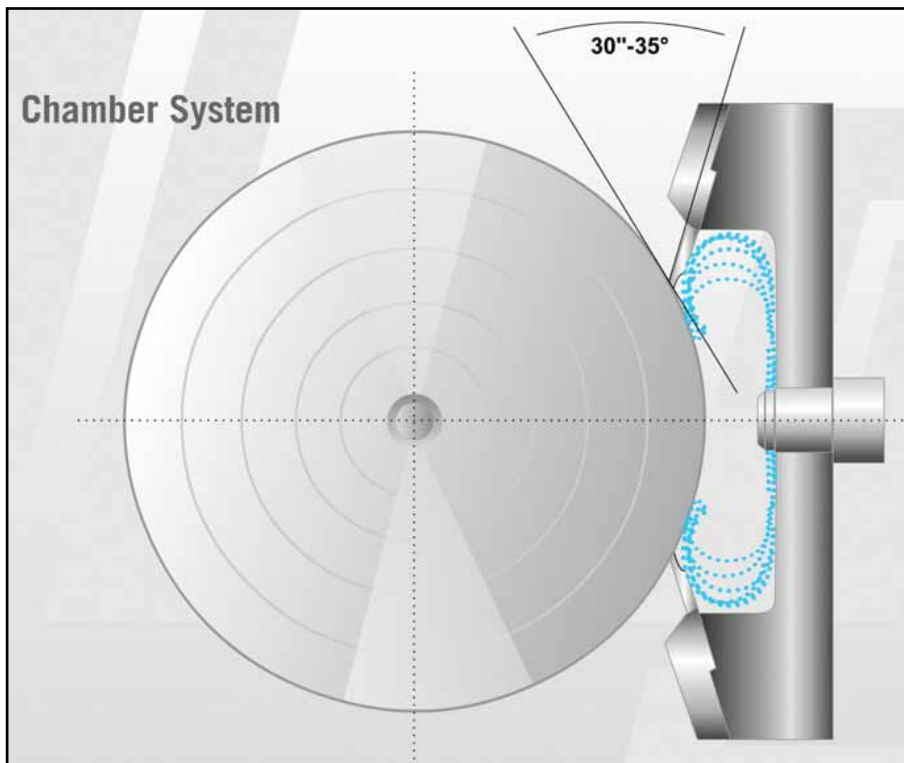

Figure 4: Ideal doctor blade set angle for Flexo.
- ◆ Ideal is 30 degrees – 35 degrees (*Figure 4*).